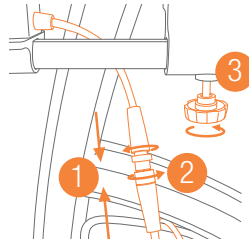

Figure 5: Connect (1&2) and tighten (3) the controller.
- b. Reconnect the cable, and tighten the controller by rotating the knob **(Figure 5)**.